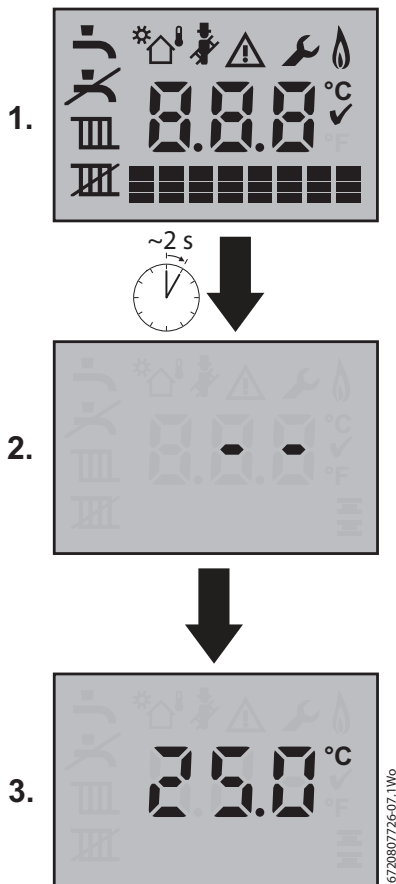

Fig. 50 Boiler start up screen
- ▶ Turn on the mains power supply, initially the “Boiler start up screens” will be displayed (refer to figure 50).